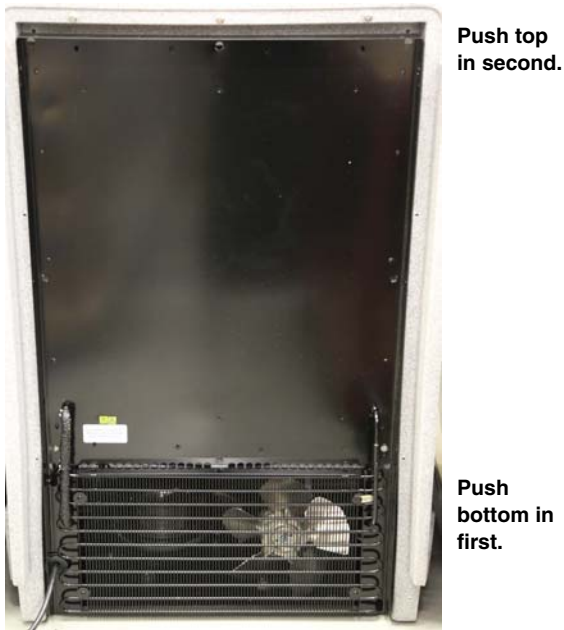

Figure 20: Slide module into place
7. Install the module, tipping the top back while sliding the bottom forward. When the bottom of the system is in place, push the top into place (Figure 20). Ensure the slack in the power cord is removed before securing refrigeration module frame.